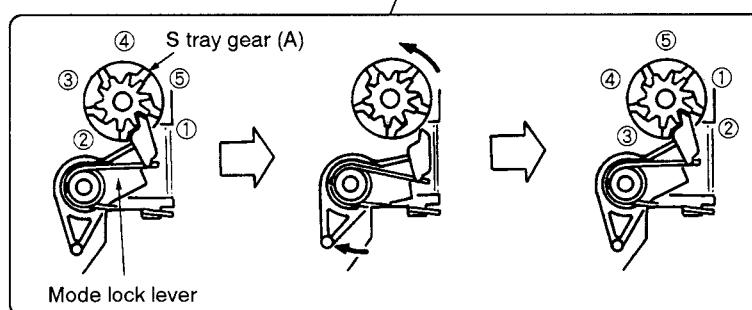

Figure 2
- Engage the claw of mode lock lever with the tooth of S tray gear (A). (Refer to figure 2.)
- If the play is more than 1mm, unlock the draw lever. Then, rotate the S tray gear (A) in the direction of arrow with lifting a small amount and engage the mode lock lever with the block. (Refer to figure 2.)